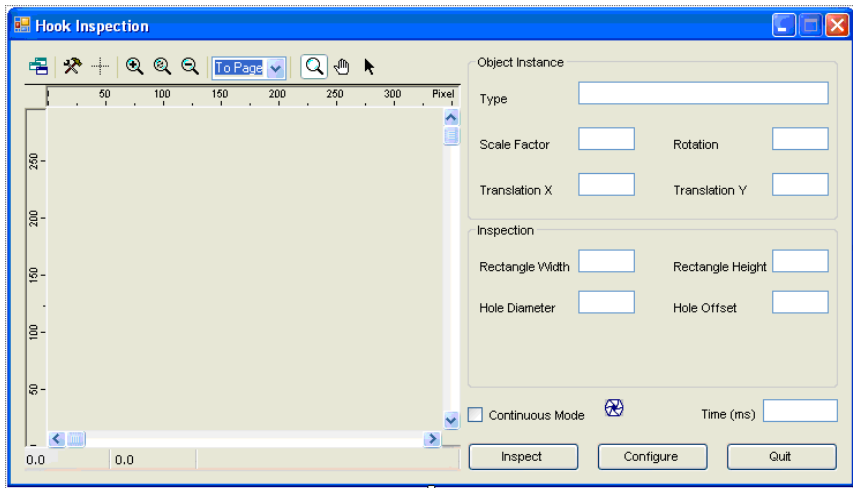

Figure 34 VB .NET Form for Tutorial 4
1. On your application form, add two text boxes. Name the first one **DiameterText** and the second **OffsetText**, and add appropriate labels. Set up your form as illustrated in Figure 34.